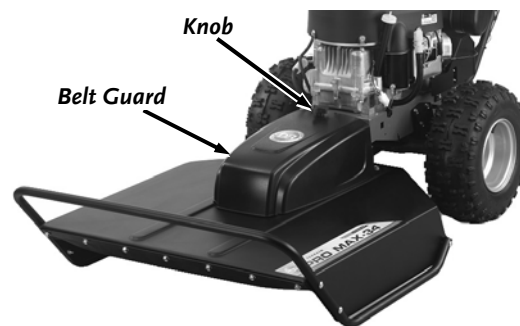

Figure 38
1. Unscrew the Hand Knob and remove the Belt Guard (*Figure 38*).
8. Install the Belt Guard back over the Belt and secure it with the Hand Knob (*Figure 38*).